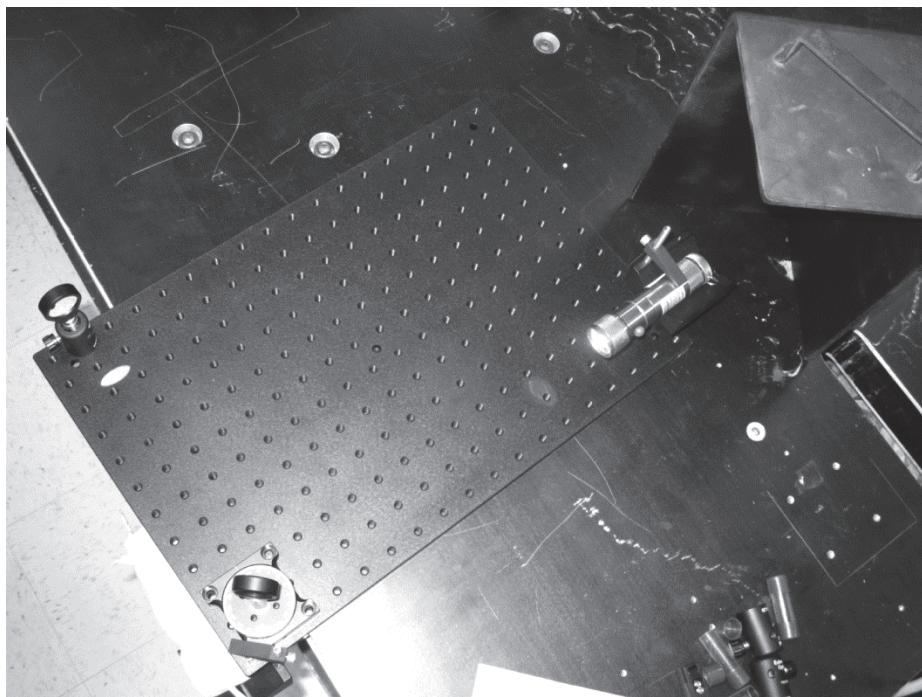

Figure 35 – Retrorefraction Alignment Set-up
6. Mount the other round mirror to the other kinematic mirror mount. Mount the kinematic mirror mount, with mirror mounted, to a 1.5" post. Mount a post holder in a position on the optical breadboard that is on the opposite side of the rotational stage assembly and makes a 90° angle with the laser beam. Refer to Figure 35. Insert the second mirror assembly post into this post holder. We will call this assembly two.